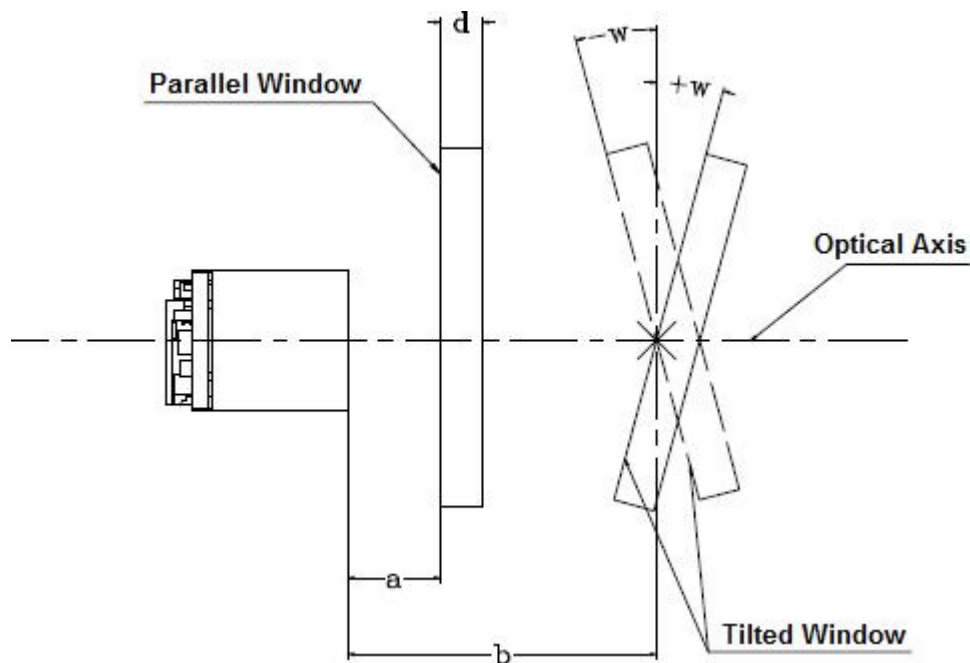

Figure 2-2
- **Parallel window** – Primary option for imager engines. The following window distance requirements should be satisfied: The maximum distance is measured from the front of the engine housing to the furthest surface of the window. In order to reach better reading performance, the distance from the front of the engine housing to the nearest surface of the window should not exceed a ($a=0.1\text{mm}$) and the distance from the front of the engine housing to the furthest surface of the window should not exceed $a+d$ ($a=0.1\text{mm}$, $d=2\text{mm}$), as shown in **Figure 2-2**.